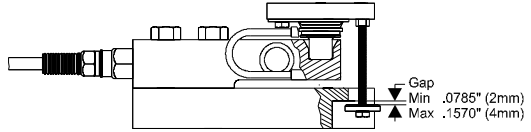

FIG. 22: ANTI-LIFT OFF DEVICE ADJUSTMENT
- Step 1. Use a box end wrench to loosen the adjustment hex nut that fastens the anti-lift-off device to the top plate. (See Fig. 22)